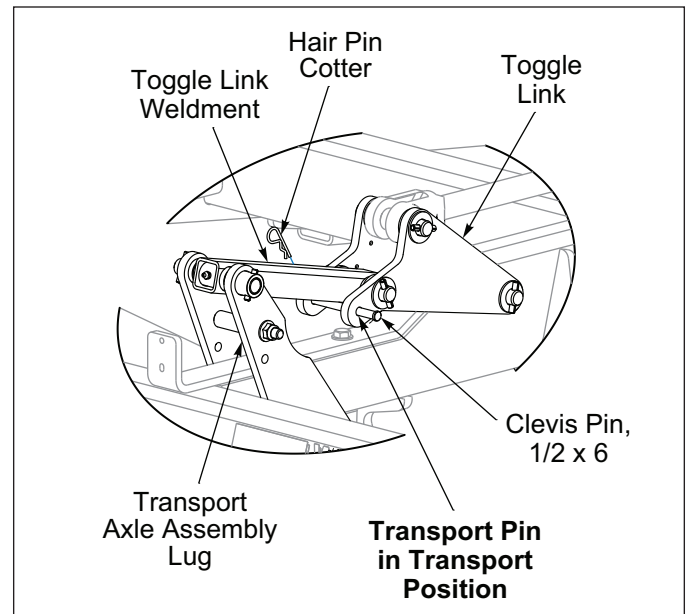

Figure 3-6: Transport Pin in Transport Position
4. Fully extend the hydraulic lift cylinders, and retract the wing fold cylinders. Insert the 1 x 6 Clevis Pin into the Lift Linkage to lock the Lift Linkage in the raised position for transport. **See Figure 3-6.**
2. Remove Hair Pin Cotter and 1/2 x 6 Clevis Pin that is used to lock the Toggle Links in the raised position. **See Figure 3-6.**
3. Insert the 1/2 x 6 Clevis Pin in the Toggle Links to lock the Lift Linkage in the raised position. Secure with Hair Pin Cotter. **See Figure 3-6.**
- Install Transport Lock Clevis Pin that locks the Lift Linkage in the raised position. Do not depend solely on implement hydraulics for transport. **See Figure 3-6.**